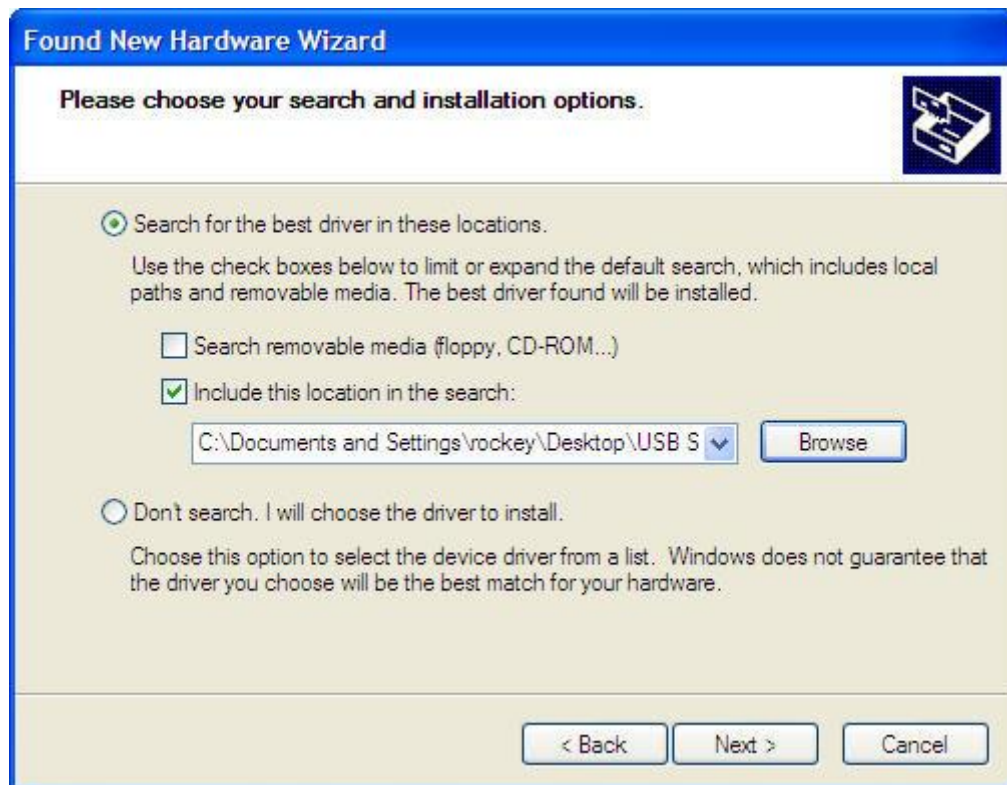

Figure 3 Searching Driver
2. The following interface appears as Figure 3 shown below. Click “Browse” button.
4. Click “Next” button as shown in Figure 3 and then the system starts to install the driver.